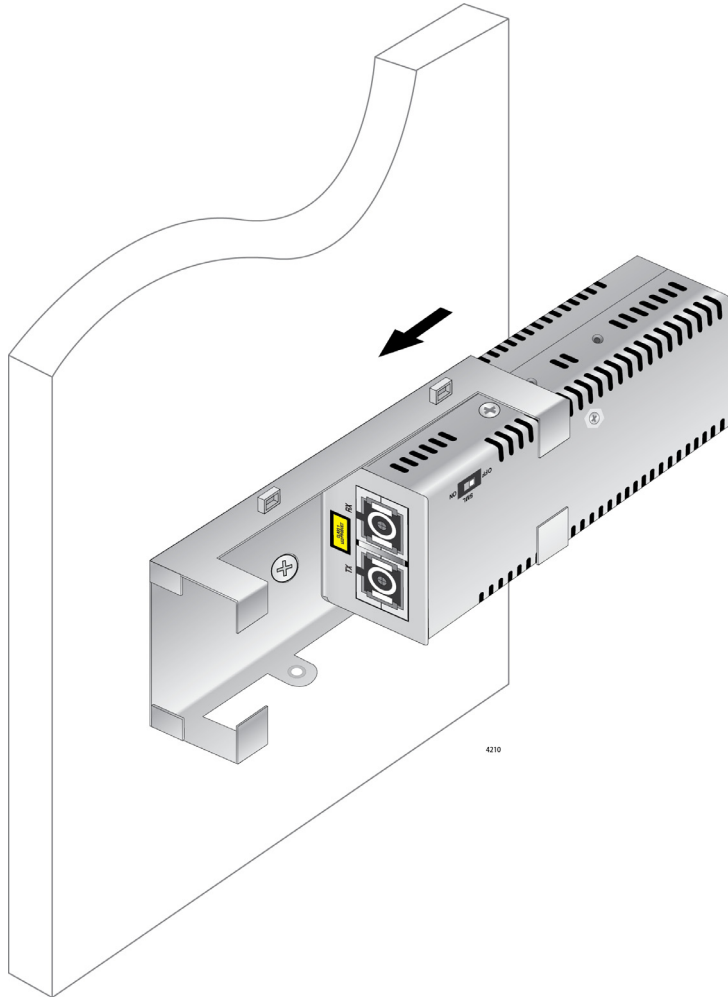

Figure 22. Attaching the Media Converter to the Mounting Bracket
8. Slide the media converter through the mounting bracket with the DIP switch facing outward, as shown in Figure 22 on page 43,
9. Slide the media converter through the mounting bracket with the DIP switch facing outward, as shown in Figure 22 on page 43.